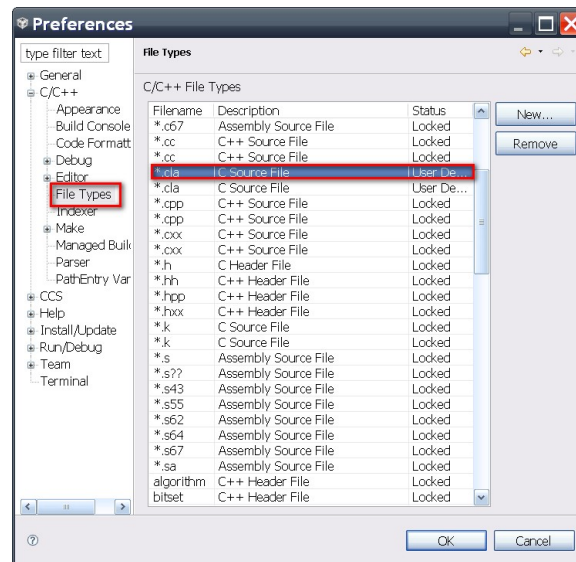

Figure 5.3: Configuring CCS4/5 to recognize the `.cla` extension
4. In the drop down menu select C source file(see Fig. 5.3).